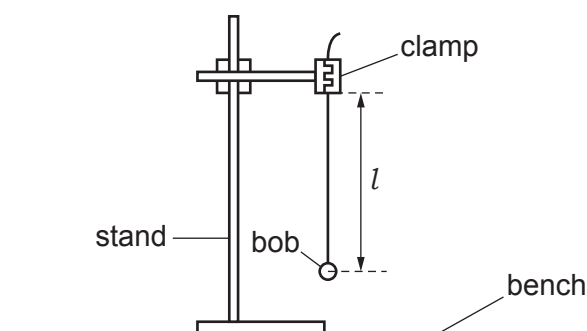

Figure 1.1
- 1 The pendulum must be set up for candidates as shown in Figure 1.1.
In this case, the base of the stand should now be secured with a G-clamp or heavy weight, and the difference between the diagram in Figure 1.1 and the actual arrangement of the apparatus should be pointed out to the candidates.